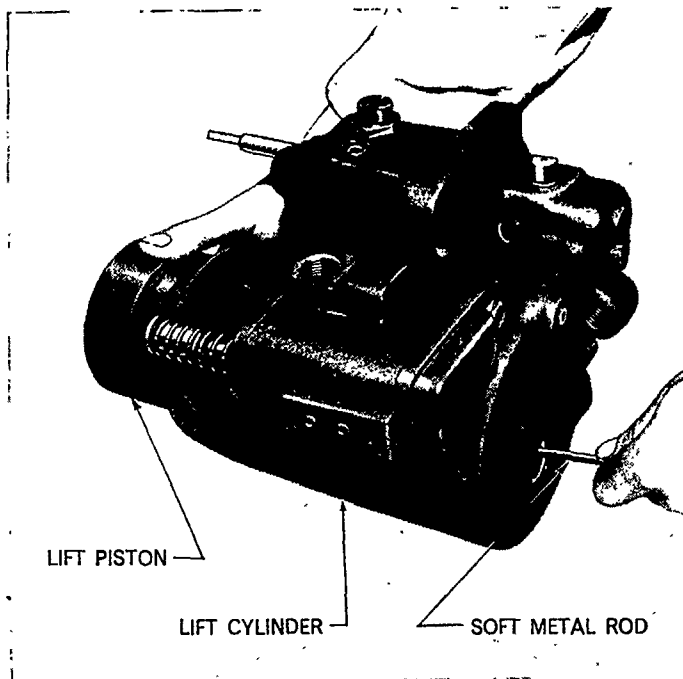

Figure 62
2. With the safety valve removed, push the lift piston out of the cylinder using a suitable soft metal rod through the hole provided for the safety valve, Figure 62.